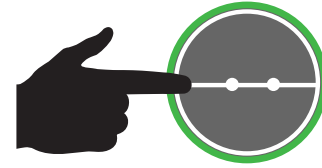

Figure 23. Main Circuit Breaker ON Button
4. Press the **Main Circuit Breaker ON button** (Figure 23) on the digital controller touch display.